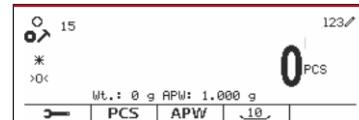

Figure 41
- Key in the Piece Weight using the alphanumeric keypad. (See Figure 41)